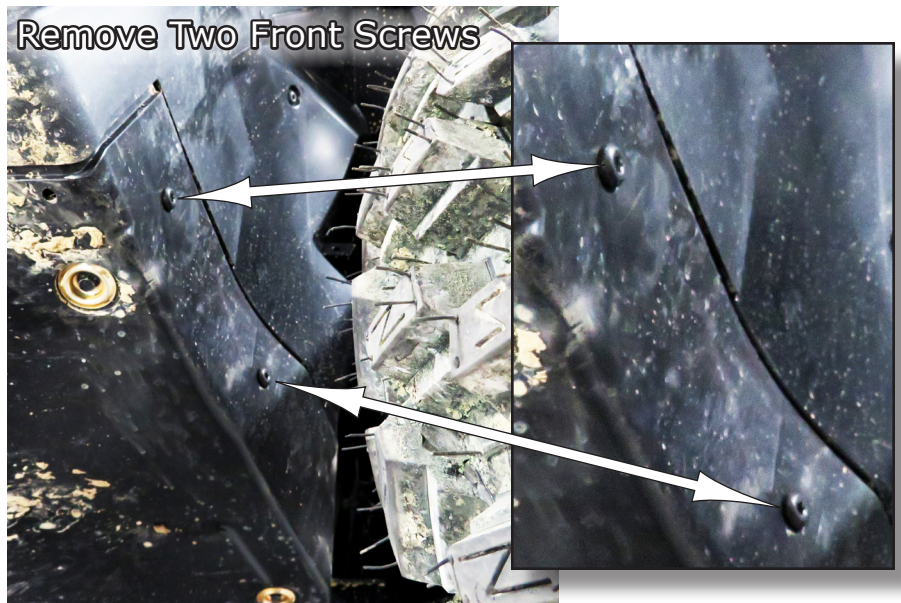

Fig.2
2. Next, you need to remove the two front screws in the front wheel well area as shown in **Fig.2**. Repeat for opposite side.